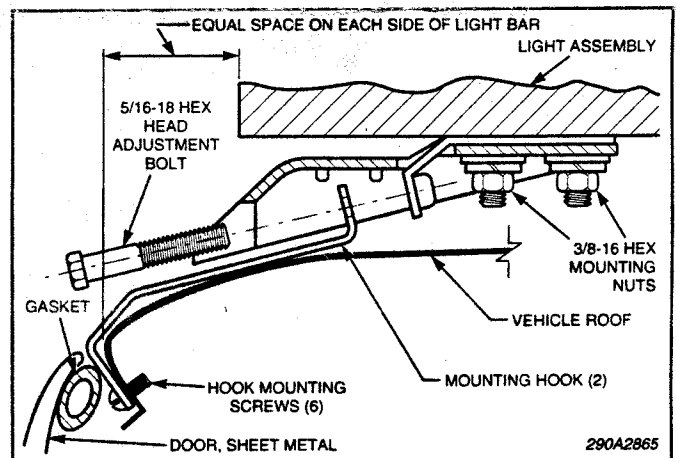

Figure 1.
2. See figure 1. Determine where the hook will attach to the vehicle.
3. Place the hook in position on the roof sheet metal as shown in figure 1.
5. Drill three (3) .147" diameter holes (#26 drill bit) at the marked locations.
7. Secure the hook using the three sheet metal screws provided (#10 thread-forming) as shown in figure 1.